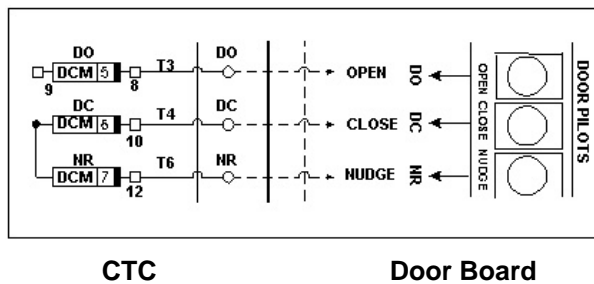

Figure 1-42
From the Car Top Controller (CTC) there will be 3 inputs required to the door boards. They are DO, DC and Nudging (NR). [See Figure 1-42.]